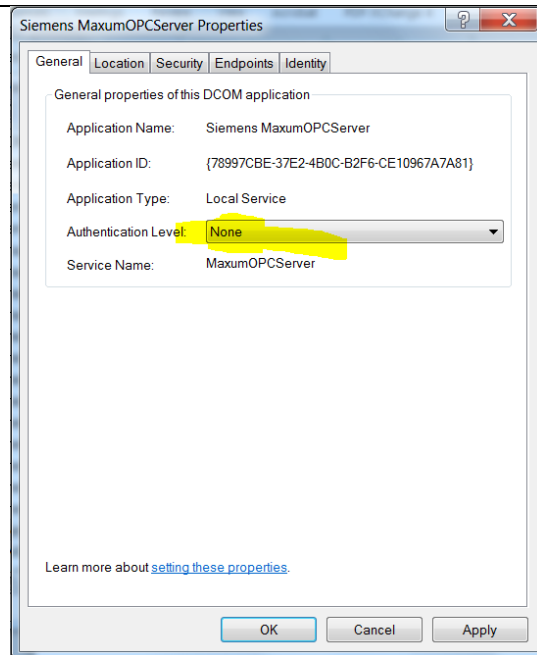

Figure 4.8
Step 9: Browse to the Siemens MaxumOPCServer COM object. Right-click, and select **Properties** from the pop-up menu. On the **General** tab, set the **Authentication Level** to **None**. (see Figure 4.8)